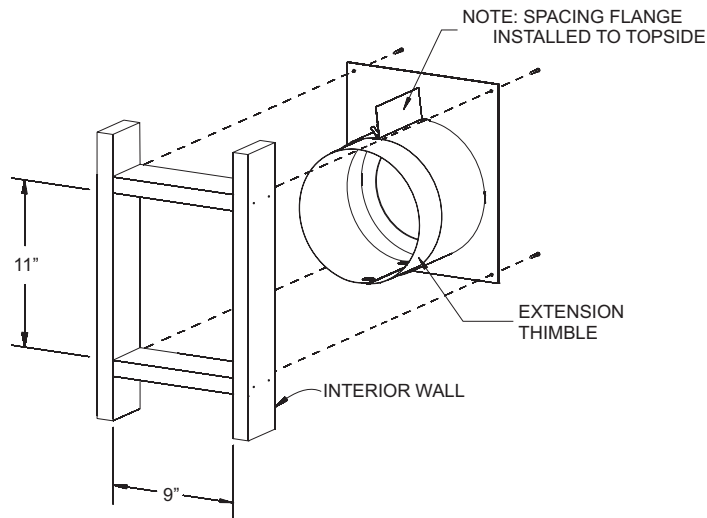

Figure 54
2. Cut hole in wall for wall thimble/firestop assembly into your combustible wall. **See Figure 54.** Note: On brick or block exterior wall a 7" (178mm) diameter hole needs to be cut. Measure the total wall thickness to determine whether or not the extension thimble is to be used. If the combustible wall depth is over 5 3/8" (137mm), then the extension thimble should be used. **See Figure 54.**
3. Install the wall thimble assembly through the framed opening so the firestop plate is on the interior wall. **See Figure 54.** Telescope section should extend all the way through the exterior wall. Attach with four 10 x 1" screws.
6. With the vinyl siding kit installed to wall (if necessary), insert the 6 5/8" (168mm) diameter tube with outside mounting plate attached through hole in wall. Connect to collar on fireplace or rigid vent system. Measure between wall or vent cap extension and outside mounting plate. **See Figures 54 and 55.**